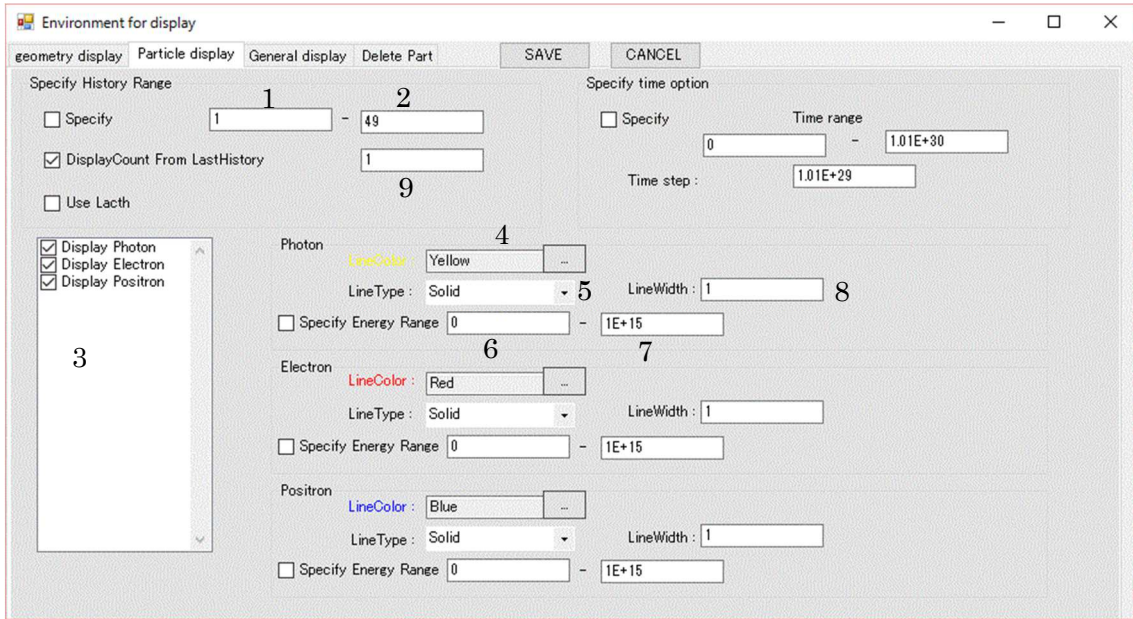

Fig.7.8-1 Window to specify a particle display
Select **[Environment]-[Environment for Display]** in the main menu to make a change. Then, a window, as shown in Fig.7.8-1, appears. Select **[Particle display]** among the tabs at the upper part of the window.
**[Specify]** is indicated in the **[Specify History Range]** frame in Fig.7.8-1.
**[Display Count from Last History]** is indicated in the **[Specify History Range]** frame in Fig.7.8-1.
By checking [**Specify Energy Range**] in a frame of each particle in Fig.7.8-1, the energy-range specification is enabled. In this case, a particle is displayed only if its energy is within a specified range. If this button is not checked, the energy range is not specified.
By checking [**Use Latch**] in [**Specify History Range**] frame in Fig.7.8-1, the LATCH function is enabled. In this case, a history with -1 of the latch flag is not displayed. If this button is not checked, the LATCH function is cancelled.
By checking **[Specify]** in **[Specify time option]** frame in Fig.7.8-1, the Animation display is enabled with a file including lifetime data. Time range of the animation is specified by values in "Time range". Time width of one picture is specified by an absolute value of "Time step". If "Time step" is a negative quantity then the starting time is always fixed as starting time which is specified in "Time range". In this case, particle trajectory is displayed as if it is growing as time passes. The unit is same as a file using unit.